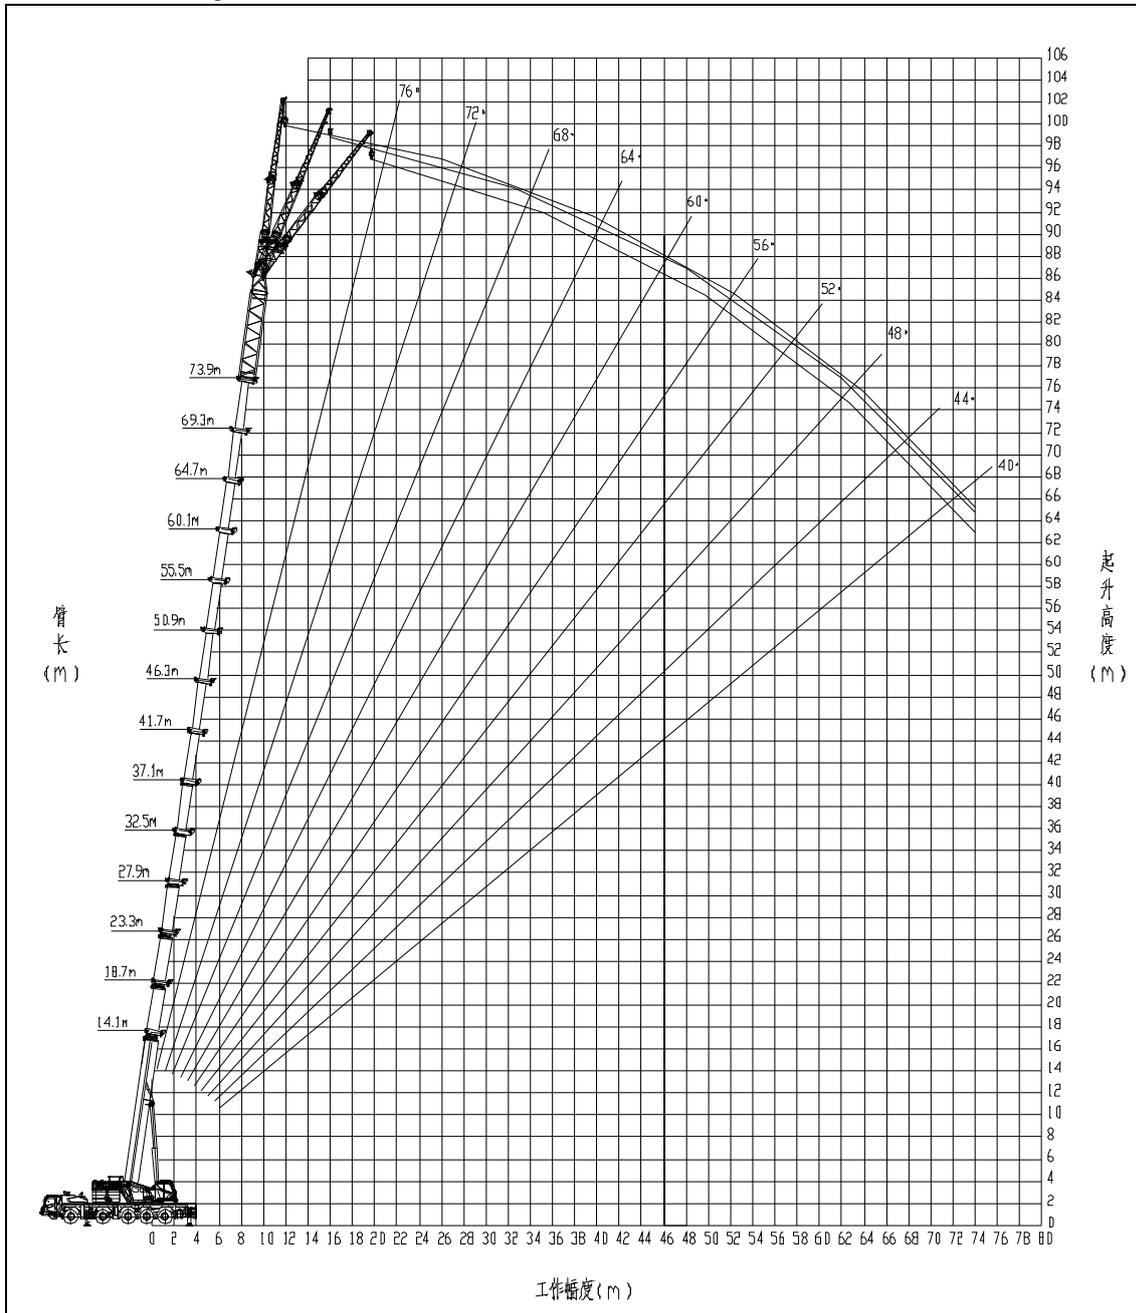

Figure 1-20 73.9 m main boom + 8 m extension + jib variant 2 (17.5 m)
- a) For the lifting height chart for 73.9 m main boom + 8 m extension + jib variant 2 (17.5 m), refer to Figure 1-20.